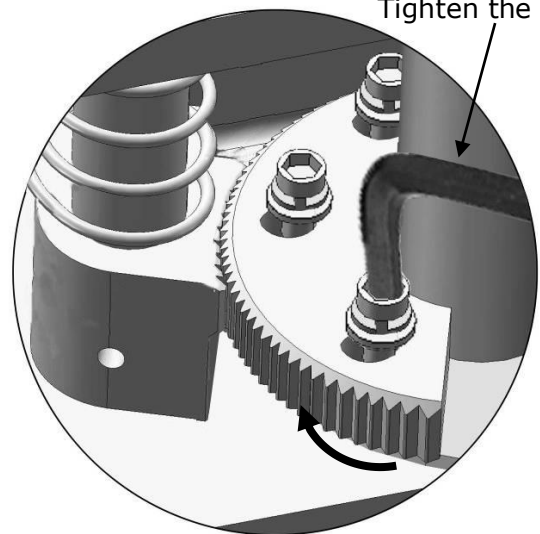

Fig. 37
4. Adjust moon gear and arm lock to make it to be meshed, then tighten the socket bolts of arm lock (**See Fig.37**).